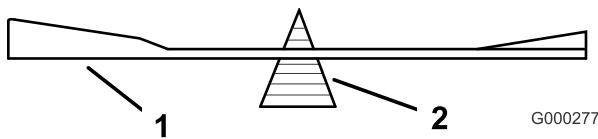

Figure 88
2. Check the balance of the blade by putting it on a blade balancer (Figure 88). If the blade stays in a